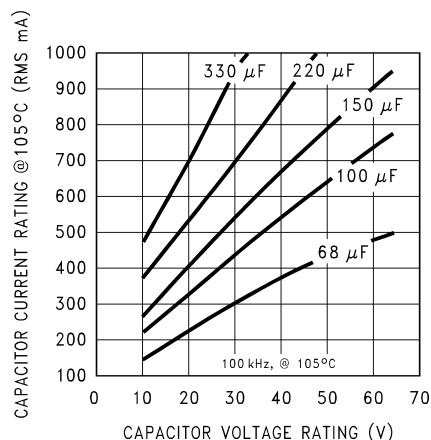

Figure 28. RMS Current Ratings for Low ESR Electrolytic Capacitors (Typical)
5. Input Capacitor (C_{IN}) A low ESR aluminum or tantalum bypass capacitor is needed between the input pin and ground to prevent large voltage transients from appearing at the input. This capacitor should be located close to the IC using short leads. In addition, the RMS current rating of the input capacitor should be selected to be at least $\frac{1}{2}$ the DC load current. The capacitor manufacturer data sheet must be checked to assure that this current rating is not exceeded. The curves shown in Figure 28 show typical RMS current ratings for several different aluminum electrolytic capacitor values. A parallel connection of two or more capacitors may be required to increase the total minimum RMS current rating to suit the application requirements. For an aluminum electrolytic capacitor, the voltage rating should be at least 1.25 times the maximum input voltage. Caution must be exercised if solid tantalum capacitors are used. The tantalum capacitor voltage rating should be twice the maximum input voltage. The tables in Recommended Application Voltage for AVX TPS and Sprague 594D Tantalum Chip Capacitors Derated for 85°C. show the recommended application voltage for AVX TPS and Sprague 594D tantalum capacitors. It is also recommended that they be surge current tested by the manufacturer. The TPS series available from AVX, and the 593D and 594D series from Sprague are all surge current tested. Another approach to minimize the surge current stresses on the input capacitor is to add a small inductor in series with the input supply line. Use caution when using ceramic capacitors for input bypassing, because it may cause severe ringing at the V_{IN} pin.	5. Input Capacitor (C_{IN}) The important parameters for the input capacitor are the input voltage rating and the RMS current rating. With a maximum input voltage of 28V, an aluminum electrolytic capacitor with a voltage rating of at least 35V ($1.25 \times V_{IN}$) would be needed. The RMS current rating requirement for the input capacitor in a buck regulator is approximately $\frac{1}{2}$ the DC load current. In this example, with a 500 mA load, a capacitor with a RMS current rating of at least 250 mA is needed. The curves shown in Figure 28 can be used to select an appropriate input capacitor. From the curves, locate the 35V line and note which capacitor values have RMS current ratings greater than 250 mA. For a through hole design, a 68 μ F/35V electrolytic capacitor (Panasonic HFQ series, Nichicon PL, Sanyo MV-GX series or equivalent) would be adequate. Other types or other manufacturers' capacitors can be used provided the RMS ripple current ratings are adequate. Additionally, for a complete surface mount design, electrolytic capacitors such as the Sanyo CV-C or CV-BS and the Nichicon WF or UR and the NIC Components NACZ series could be considered. For surface mount designs, solid tantalum capacitors can be used, but caution must be exercised with regard to the capacitor surge current rating and voltage rating. In this example, checking Recommended Application Voltage for AVX TPS and Sprague 594D Tantalum Chip Capacitors Derated for 85°C. , and the Sprague 594D series datasheet, a Sprague 594D 15 μ F, 50V capacitor is adequate.